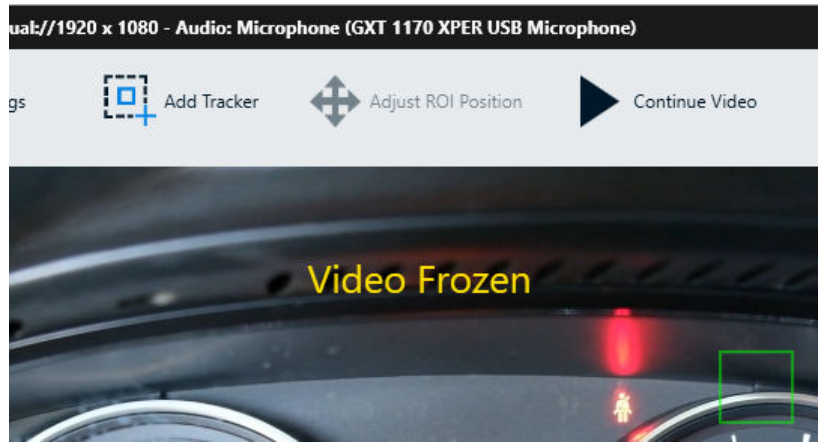

Figure 8-9: Video Frozen text overlay
- The video image has a text overlay indication as in Figure 8-9